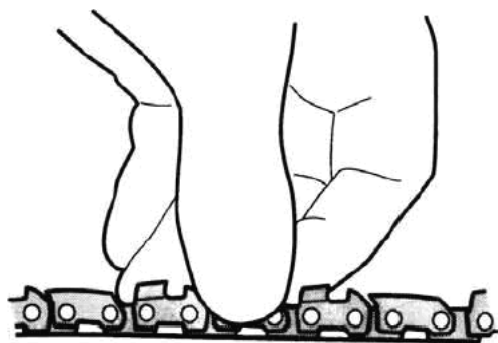

Figure 12
4. Pull the chain by hand along the top of the guide bar several times from the engine to the tip of the bar. The chain should be snug, but still pull freely. See figure 12.